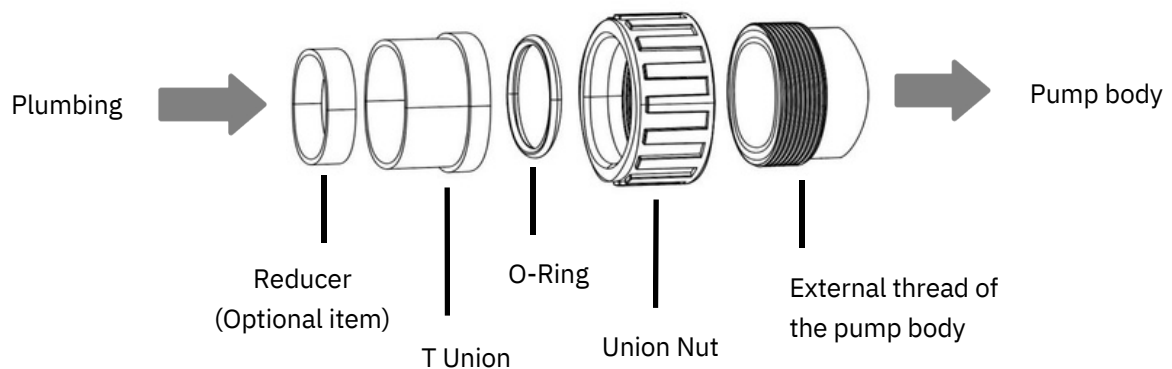

Figure 3 - Union Kit
- 3) Use the UNION KIT supplied by the pump manufacturer (Refer to Figure 3). Do not use other fittings to connect the pump inlet/outlet, in case the fittings are not match and damage the pump body.